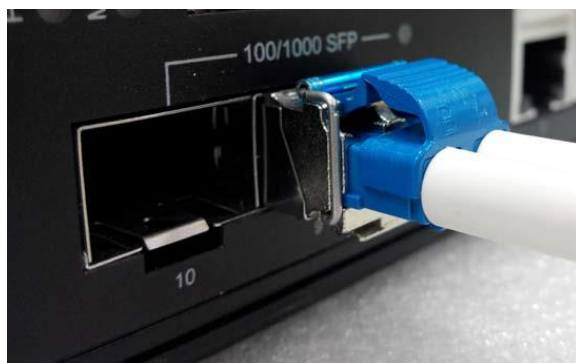

Figure 2.8 - LC Connector to the Transceiver
- **Step 2** - Insert the fiber cable of the LC connector into the transceiver as shown below in Figure 2.8.